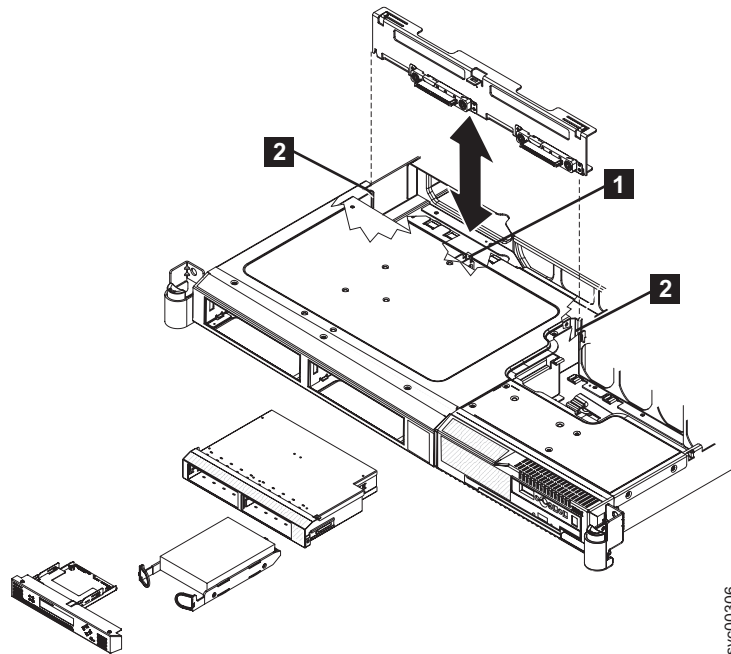

Figure 163. Removing the SAN Volume Controller 2145-8G4 SATA cable assembly with backplate
8. Press the locking tab **1**, which is shown in Figure 163, and lift the backplate out of the node slightly. Disconnect the power cable and remove the backplate.